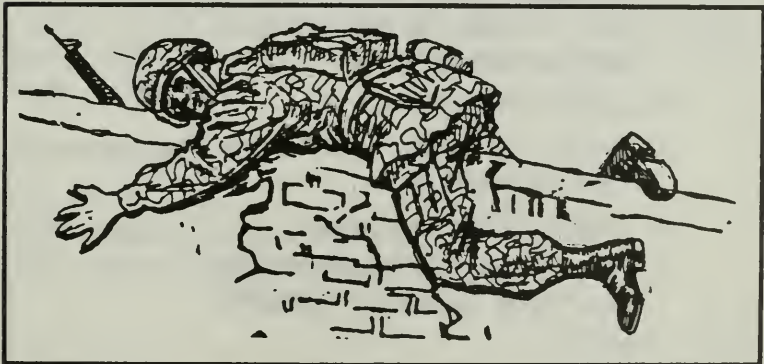

Figure 214. Crossing a wall.
4. To go over a wall, roll quickly over the top. Do not go over standing upright (Figure 214).